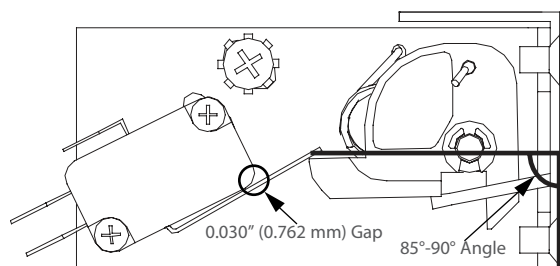

Figure 38: Switch Detail and Proper Alignment
Use the following procedure to adjust the primary, secondary, and monitor switches. The secondary switch is located on the left side hinge assembly and the monitor switch is located on the right side hinge assembly. The primary switch is located on the upper-left corner of the oven and utilizes an actuator (attached to the door) and toggle assembly (attached to the chassis) to engage (Figure 38). See page A-8 of the Appendix for switch assembly detail.
2. If adjusting the primary switch, confirm the primary switch's latch toggle is in the correct position (Figure 38).
a. Visually inspect the latch toggle position and verify it is angled at no less than 85° and no more than 90° in reference to the front flange (oven face). See Figure 38.